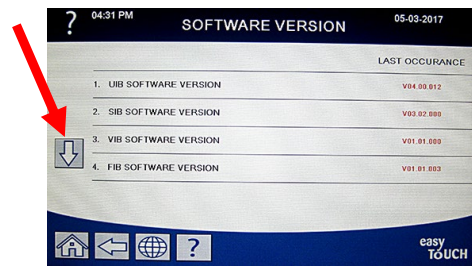

Figure 25
20. Press the down arrow button **TWO** (2) times (see Figure 25).